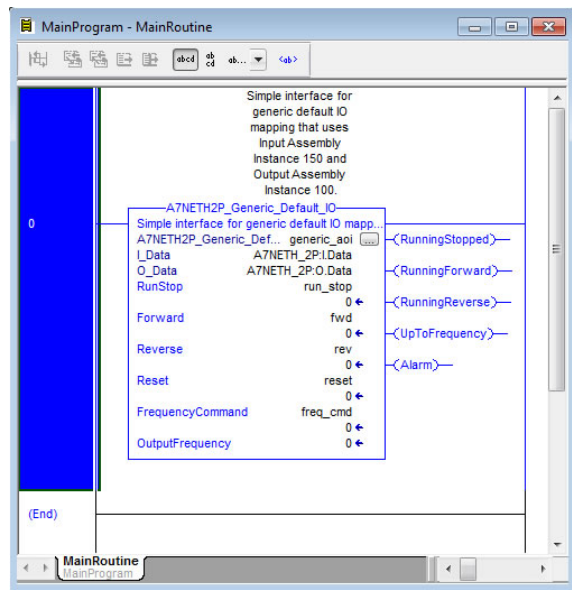

Figure 49: Configure Generic Default AOI
- Edit the add-on instruction according to Figure 49.